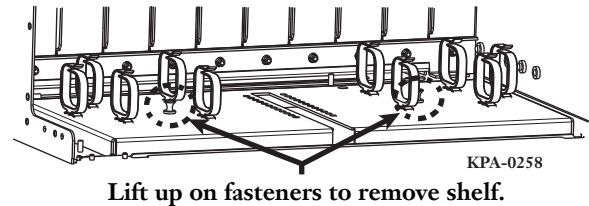

Figure 2 — Remove Fiber Shelf
- Step 2:** Remove existing fiber shelf from the rear of the housing by pulling up on the two plunger fasteners (Figure 2).